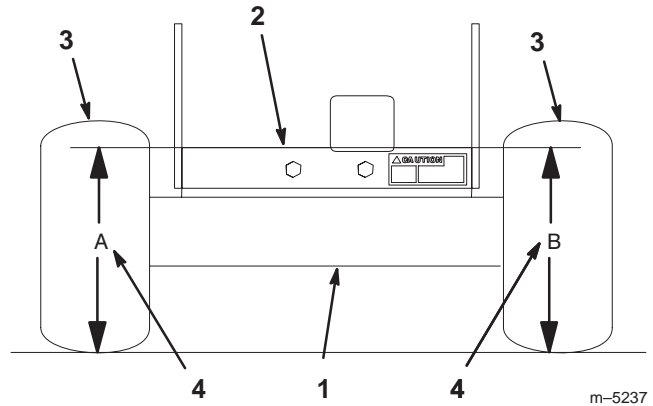

Figure 47
3. Measure engine deck height at location "A" (Fig. 47).
4. Measure engine deck height at location "B" (Fig. 47).